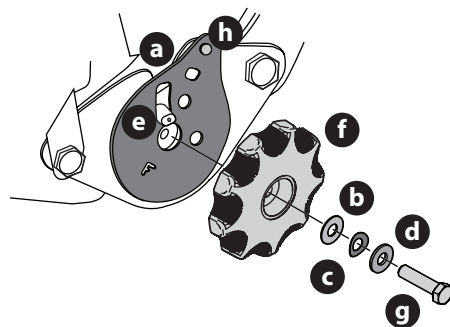

Figure 13
7. Remove the seat tilt knob assembly from the bag and install (Figure 13).
NOTE: Be sure to orient the recliner plate (a) and install the plastic washer (b), spring washer (c) and metal washer (d) (Figure 13). The plastic washer is on the inside.
8. Slide the recliner bearing plate (a) onto the recliner pin (e) (Figure 13).
10. Use a wrench to hand tighten the hex screw (g) until the recliner knob (f) is difficult to turn (Figure 13).
11. Gradually loosen the hex screw (g) until the recliner knob moves freely. Do not loosen more than one full turn (Figure 13 on page 10).
12. Securely install the 1/4" nut onto the clinch-stud (h) and rotate the recliner knob to check the operation of the seat (Figure 13 on page 10).